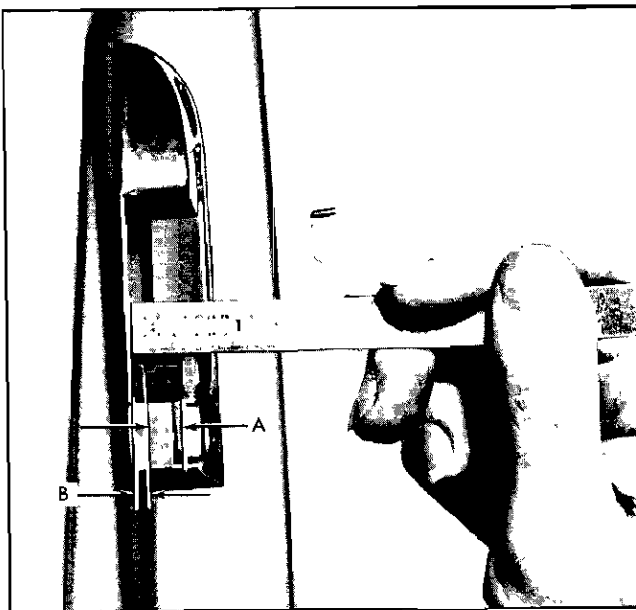

Fig. 2-7 Striker Engagement Check
2. To determine if door lock striker emergency spacers are required, apply modeling clay or body caulking compound in door lock striker notch where lock extension engages and then close door to form measurable impression in clay or caulking compound (Fig. 2-7).